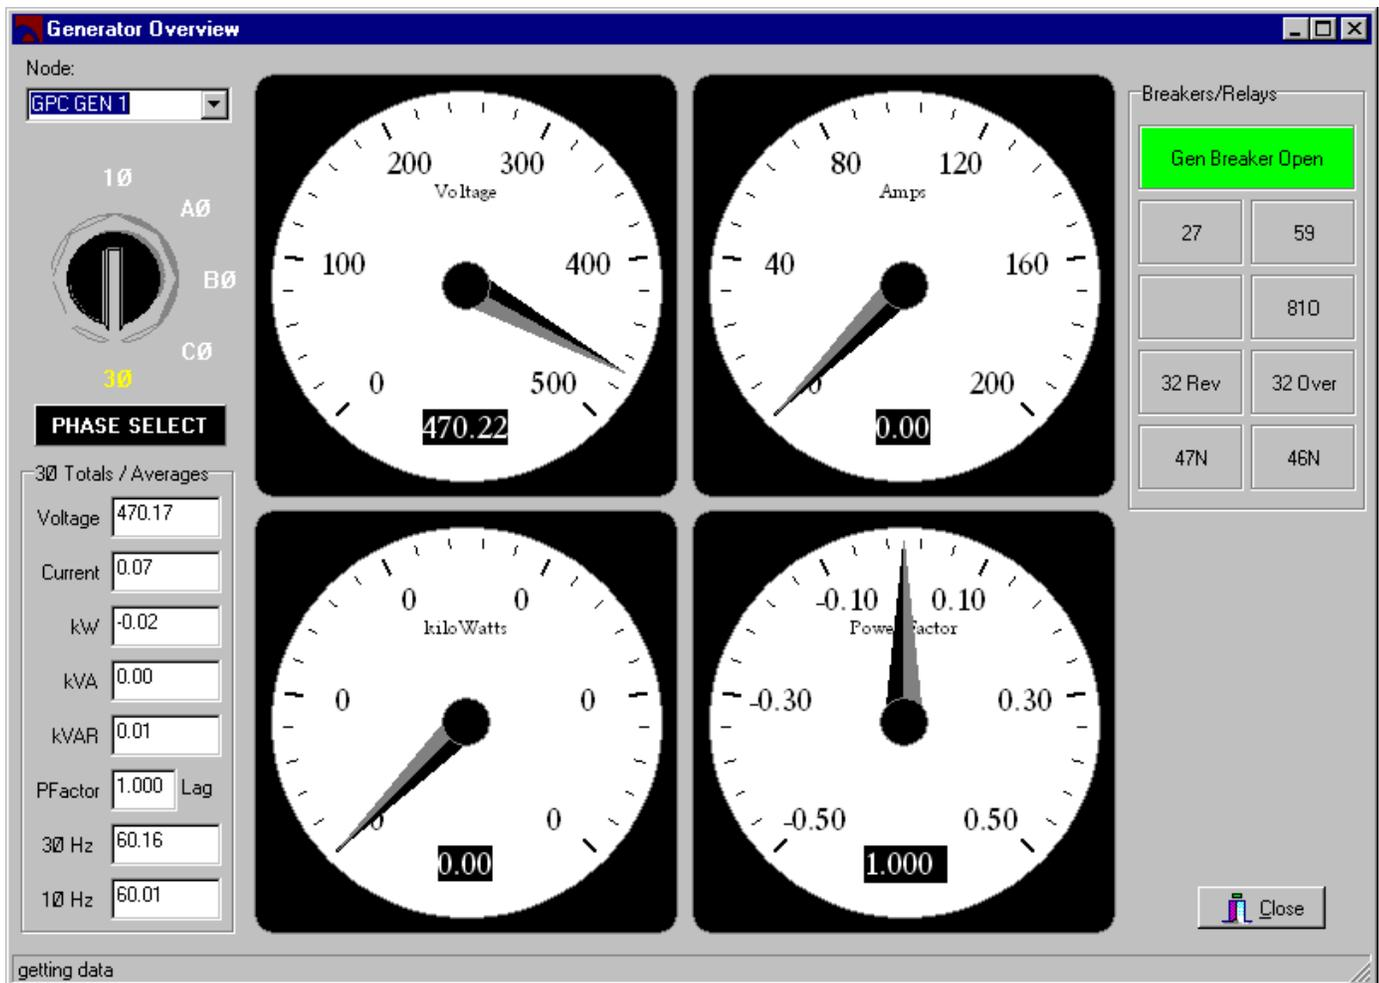

Figure 1-6 Shown Here is the Generator Overview Window.
- The Generator Overview window will open. An example of this window is shown in Figure 1-6. This window contains four gauges that show volts, amps, kilowatts, and power factor as measured by the currently selected control. You can change the currently selected control from the *Node* menu in the upper left corner of the window.